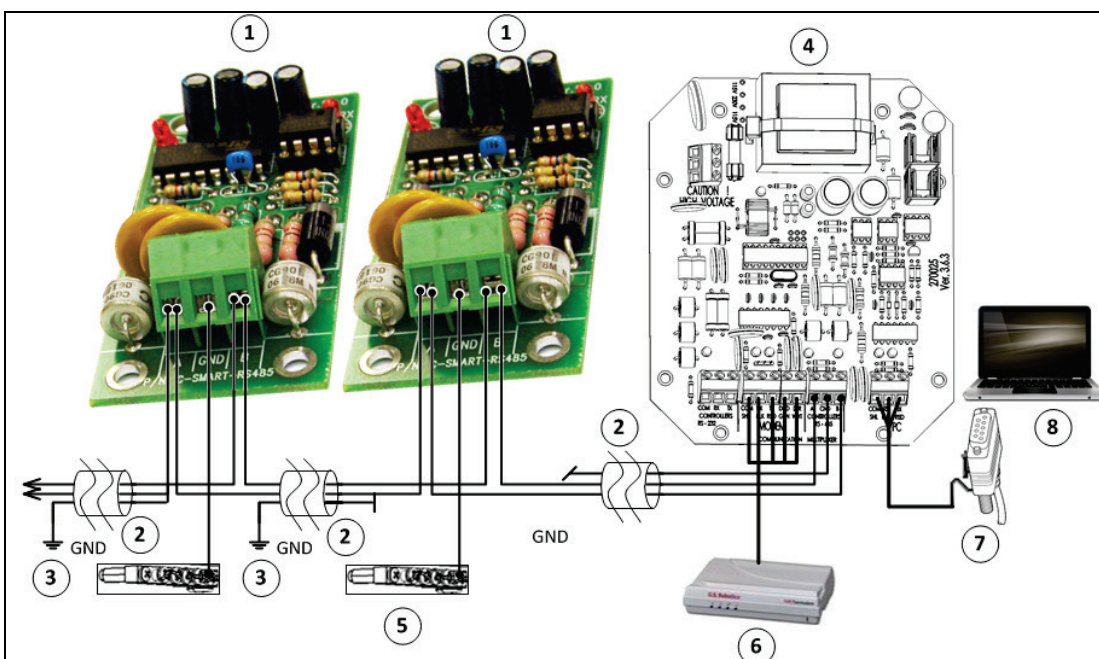

Figure 7: Smart C Communication RS-485 Wiring Diagram
- Figure 7: Smart C Communication RS-485Wiring Diagram
Figure 7 key